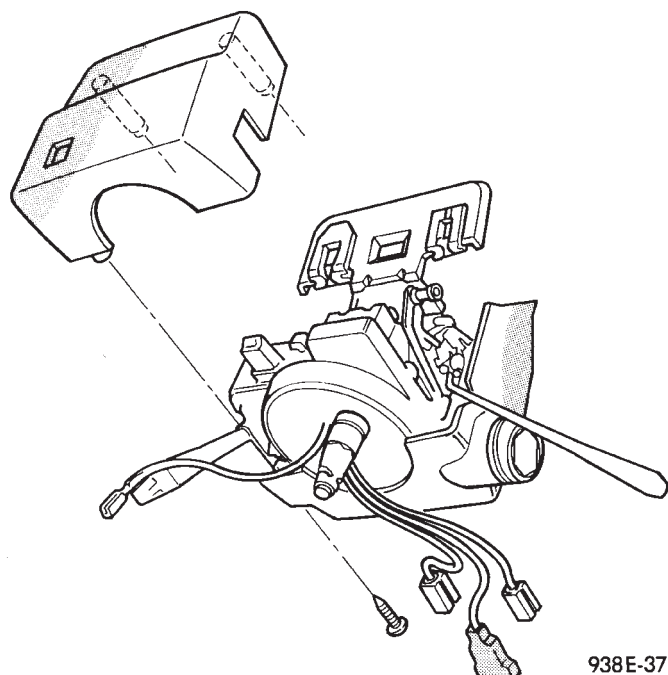

Fig. 11 Upper Shroud Removal
- (1) Tilt the column up and remove the six screws holding the lower column shroud.
- (2) Tilt the column down and remove the upper shroud (Fig. 11).
- (3) Tilt the column up and remove the one steering